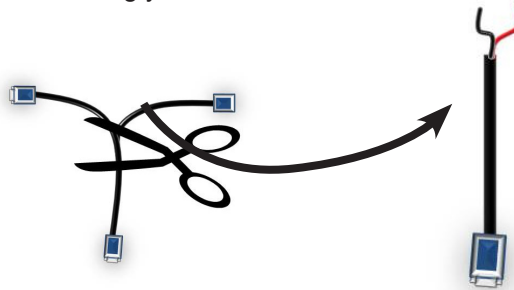

Figure 1: Cut the TSP-GDCBL
1. To begin, you will need to modify the 600-0201 cable from the TSP-GDCBL. Cut the "Y" end off and discard. This will remove two of the DB9 connectors leaving you with an 8' section of cable containing a Red and a Black wire (Figure 1).